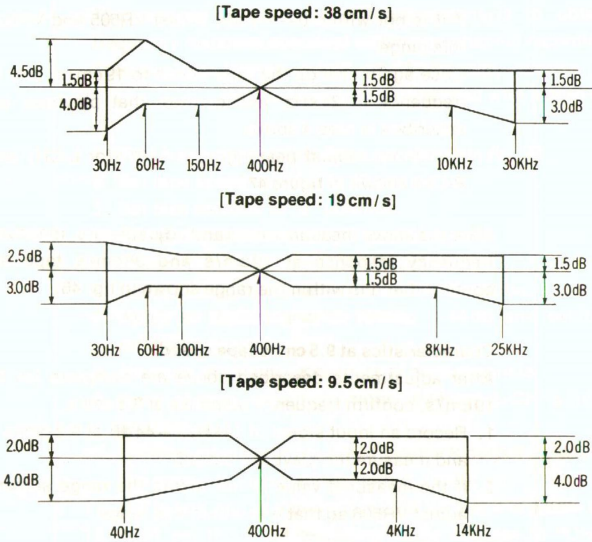
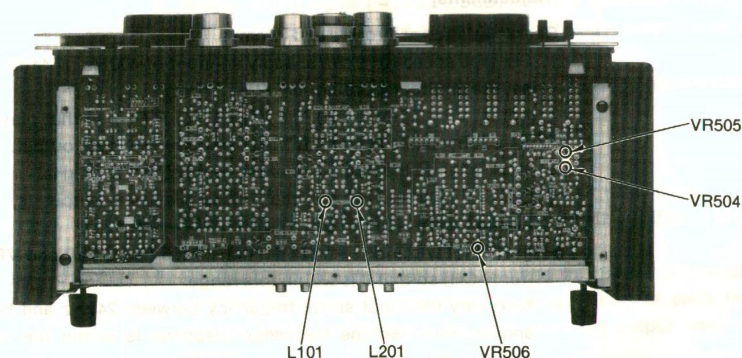

Fig. 46
Fig. 47
Overall frequency response	1. Test equipment connections are shown in fig. 36. 2. Thread blank test tape QZZORA218EX. 3. Supply 400Hz signal (- 24dB ± 3dB) from AF oscillator, through ATT, to LINE-IN jacks and adjust ATT so that the output level at LINE-OUT jacks on VTVM becomes 0.55V. 4. Next, adjust ATT so that the input level is - 20dB below standard recording level. (Standard recording level = 400Hz, - 24 dB) 5. Place unit into recording mode. 6. Set the monitor selector to "Tape" position (both channels). 7. Record each frequency (400Hz, 30Hz, 60Hz, 150Hz 1kHz, 10kHz, 20kHz and 30kHz) at the same level. 8. Playback (or tape monitor) and express in dB the difference between playback (or tape monitor) output level of each frequency based on playback (or tape monitor) output level of 400Hz. 9. Make sure that the measured value is within the range specified in the overall frequency response chart, as shown in fig. 46. 10. If the measured value is not within the range specified, adjust following points.
- 6. Next vary the input signal frequency between 24kHz and 5 kHz, and confirm that the frequency response is within the range shown in fig. 46.
9. If it is not within 0— -1 dB, adjust VR505 and VR504 for within this range. 10. Once again change the tape speed to 19cm/s, and input signal frequency to 24kHz, and confirm that playback output is as described in step 4 above. 11. If it is not, adjust peaking coils L101 (for L-CH) and L201 (for R-CH) shown in figure 47. After the above measurements and adjustments, measure the overall frequency response at 19cm/s and 38cm/s tape speeds, and confirm that it is within the range shown in fig. 46. Characteristics at 9.5cm/s tape speed After adjustments described above are complete for 38cm/s and 19cm/s, confirm frequency response at 9.5cm/s. 1. Record an input signal of 14kHz, -44dB at 9.5cm/s tape speed, and measure the playback output. 2. If the measured value is not within the range shown in fig. 46, adjust VR506 so that it is within this range.